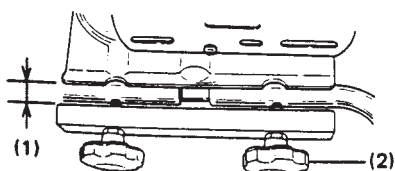

Fig. 1
- 1) Loosen 4 handle knobs about one inch wide to fold out both handles. Excessive loosening causes knobs to come off. (Fig. 1)